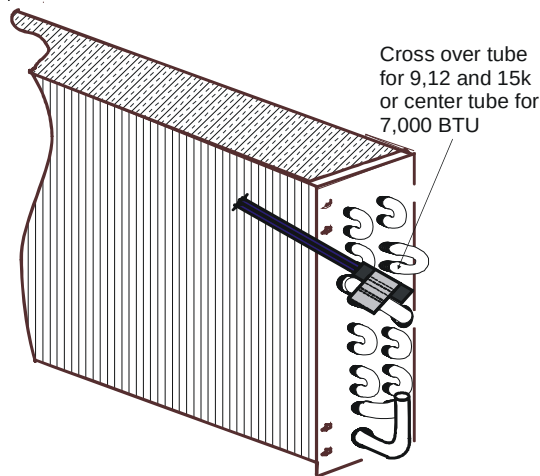

Figure 8
- D. If the existing **Outdoor Coil Thermistor** (with the **BLUE** wires) was connected to the board by a plug-on connector, reconnect it to the new board on the **OCT** (blue) terminals. If the previous board used indoor coil bi-metals, remove and discard the bi-metal devices. The Indoor Coil Thermistor will need to clip on the crossover tube shown in Figure 8. There will be two clips supplied in the kit for the Blue Thermistor. One clip as supplied on the sensor will fit 5/16" tubing used on the bent coil, and an additional clip (loose in the bag) will fit 3/8" tubing used on the flat slab coil. If you have a slab coil, you will need to remove the 5/16" clip from the sensor and replace it with the 3/8" tube clip. Connect the Outdoor Coil Thermistor to the board as noted above. Outdoor Coil Thermistors are only used on Heat Pump models; **DO NOT INSTALL THIS SENSOR IF THE UNIT IS NOT A HEAT PUMP.**